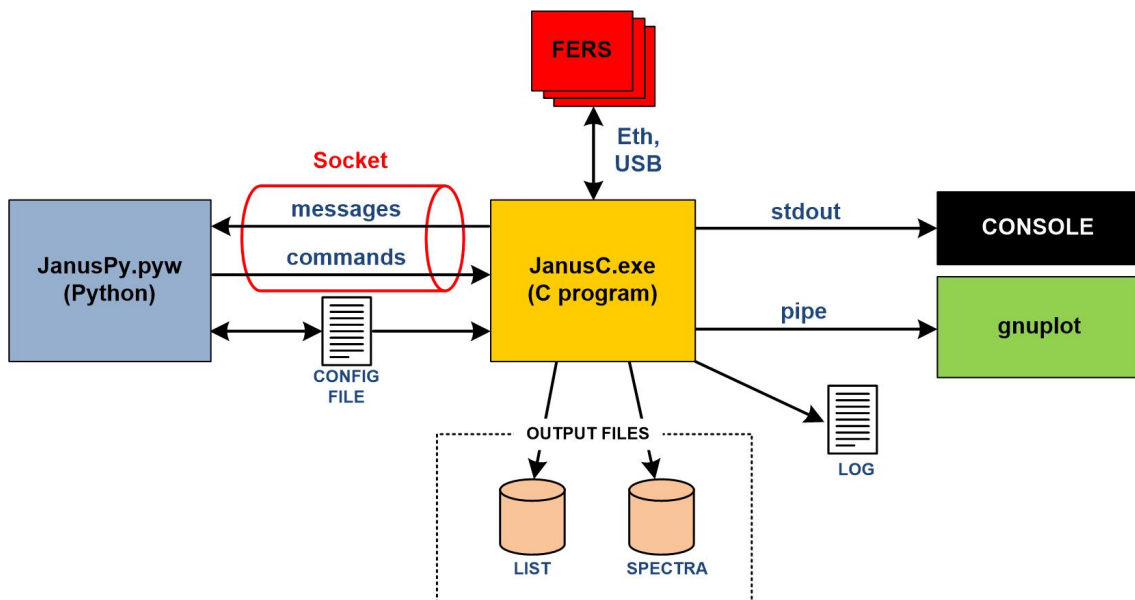

Fig. 1.3: GUI Mode block diagram.
- **GUI Mode:** In this case, the user only has to run the Python program "JanusPy.pyw", which calls the C program "JanusC.exe" and connects to it via a socket to send commands and receive messages which are then displayed in the Python GUI (see Fig. 1.3).